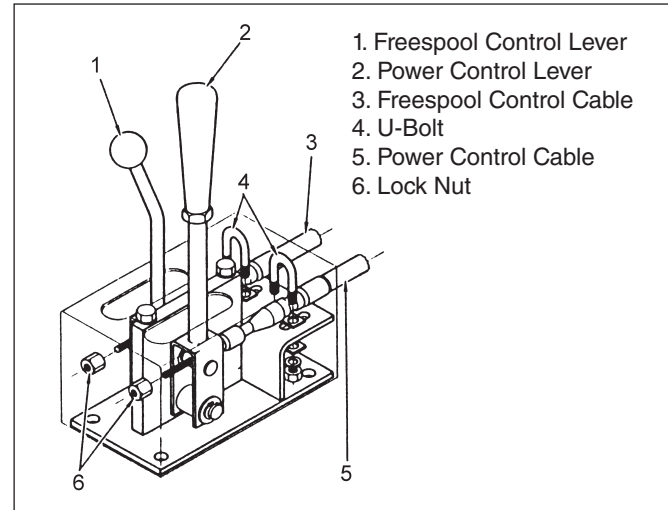

Figure 22 Control Cable Adjustments
**A.** See Figure 22. Make sure the positions of the power control lever (Item 2) are the same as the position indicators on the control housing. Remove the two capscrews and raise the cover. Loosen the U-bolt (Item 4) that holds the power control cable (Item 5) in the housing to adjust the control lever.